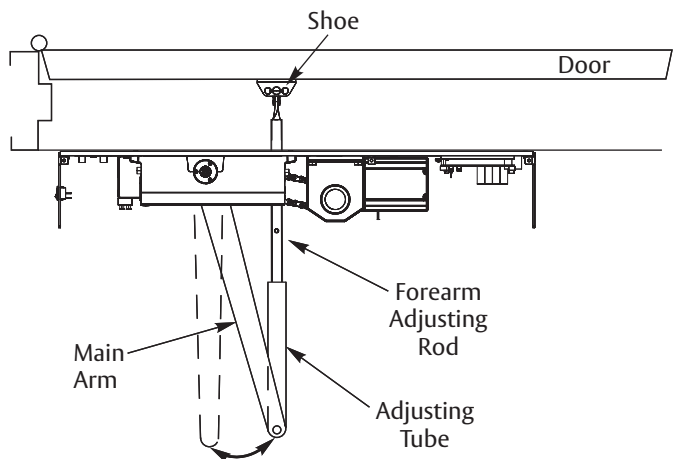

Figure 9 View from ceiling looking downward
2. Remove 1/4-20 hex head screw on forearm adjusting rod. (Figure 9)
3. Insert adjusting rod into adjusting tube. (Figure 9)